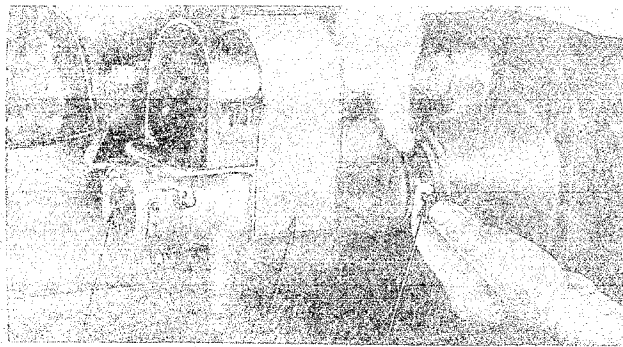
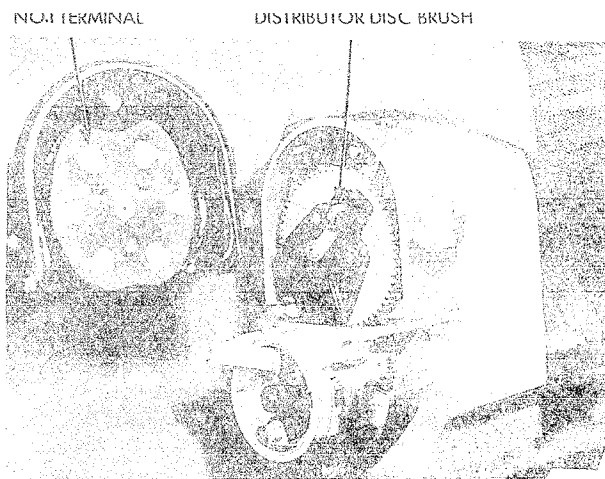

Figure 79J. Rotating Magneto Half of Adjustment Block
Figure 79K. Showing Position of Distributor Disc Brush
(7) Remove the distributor cap and hold it close to the magneto, as shown in Fig. 79K. Grasp the magneto half of the adjustment block and rotate it clockwise (as viewed from the coupling end), Fig. 79J, until the brush in the distributor disc is under the distributor cap terminal marked "No. 1," and the breaker points are just beginning to open, Fig. 79K.